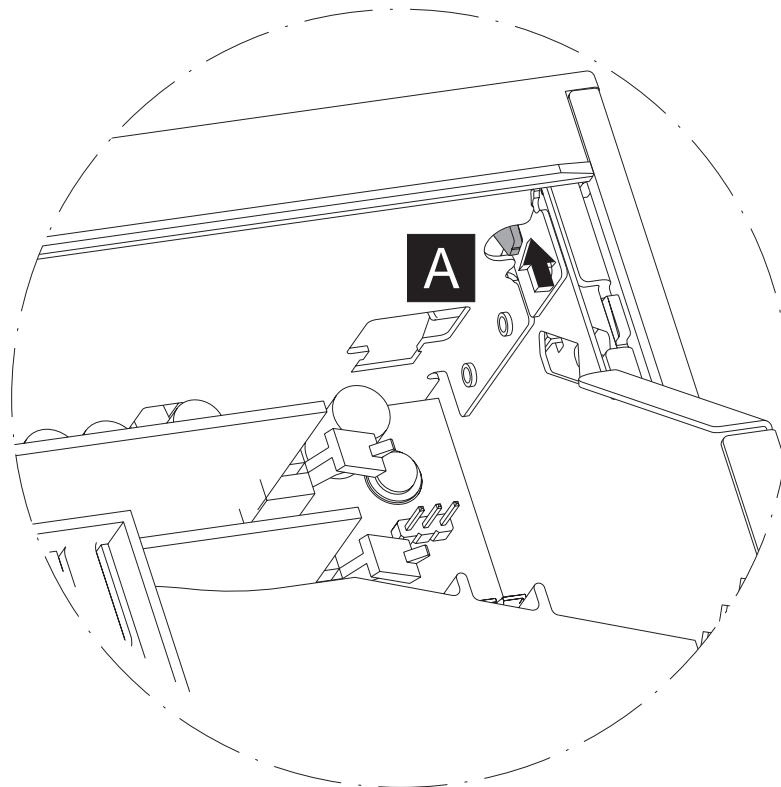

Figure 9. Top cover release latch
4. See Figure 9. Facing the rear of the system, use a screwdriver to lift the latch **A** while sliding the top cover toward you (toward the rear of the unit). See Figure 9.